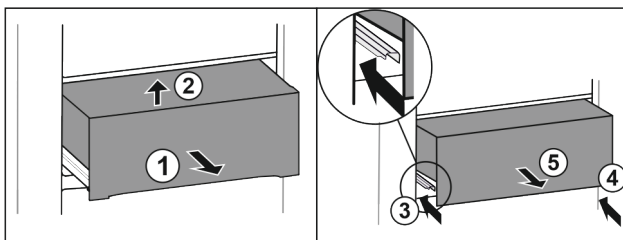

Fig. 30
- ▶ Pull out drawer half-way. Fig. 30 (1)
- ▶ Lift up drawer at the front. Fig. 30 (2)
- ▶ Insert left rail. Fig. 30 (3)
- ▶ Insert right rail. Fig. 30 (4)
- ▶ Remove drawer to the front. Fig. 30 (5)